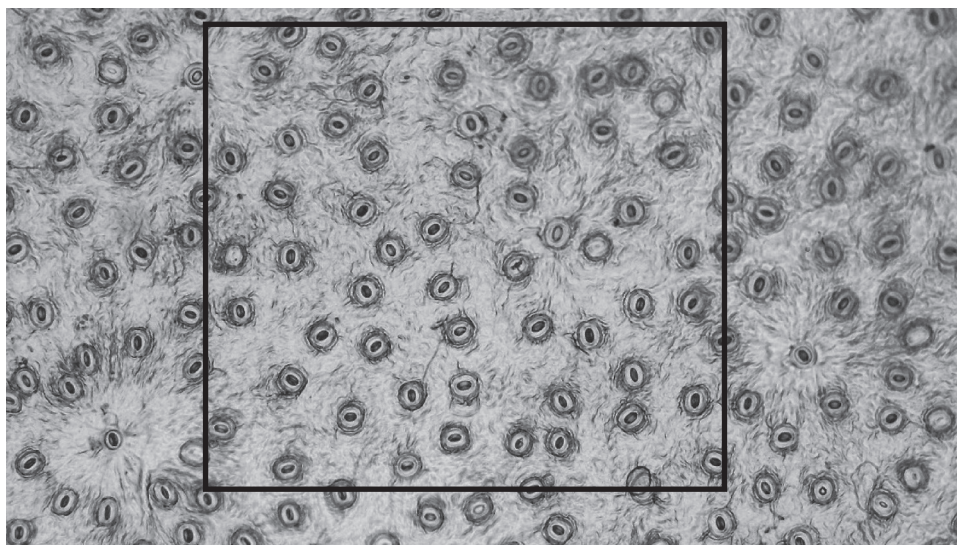

Fig. 2.1
- (b) Fig. 2.1 shows a photomicrograph of part of a leaf surface showing the stomata.
Estimate the number of stomata inside the square shown on Fig. 2.1.
Show **on Fig. 2.1** those stomata that you counted.